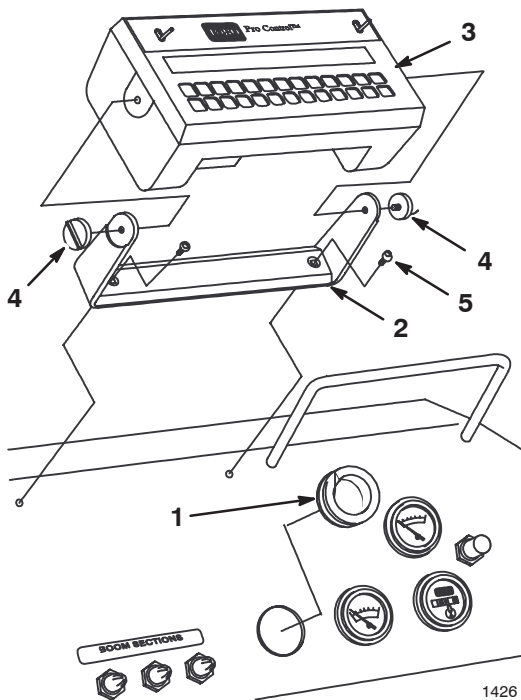

Figure 1
1. Remove the knockout plug in the dashboard and insert the large grommet (Fig. 1).
2. Remove the mounting bracket from the console computer and secure the mounting bracket to the dashboard with 2 flange head screws (Fig. 1).
8. Attach the console computer to the mounting bracket and secure it with the 2 mounting knobs (Fig. 1).